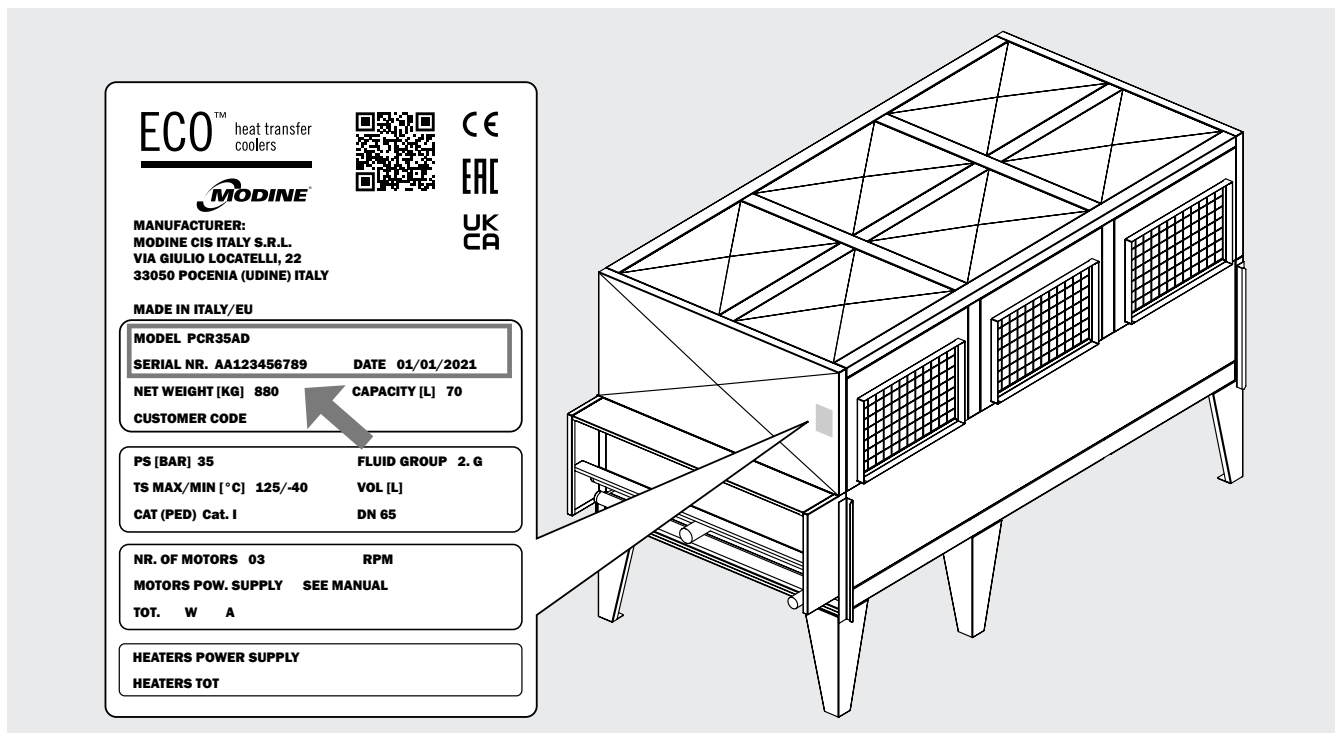

Figure 1
3.1 For any communication, request for assistance or spare parts, please provide the model name and serial number shown on the nameplate. See Figure 1.